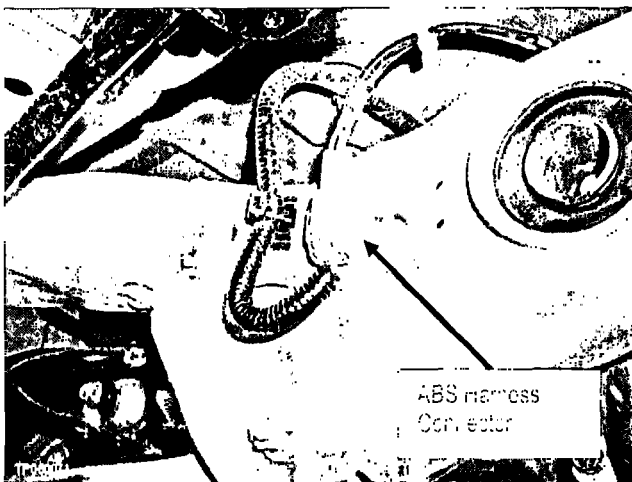
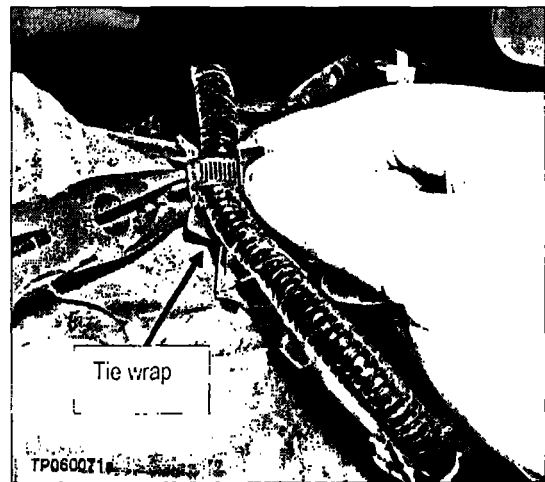

Figure 23a
Figure 23b
27. Disconnect the ABS harness connector (see Figure 23a). Then remove the tie wrap from the suspension member using a pair of needle-nose pliers (see Figure 23b).